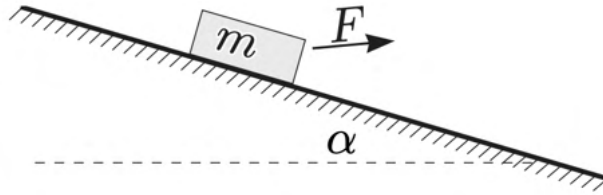

Figure 6: Dislodging block
5. What is the minimum force needed to dislodge a block of mass  $m$  resting on an inclined plane of slope angle  $\alpha$ , if the coefficient of friction is  $\mu$ ? See figure 6. Investigate the cases when a)  $\alpha = 0$ ; b)  $0 < \alpha < \arctan \mu$ . (Kalda)